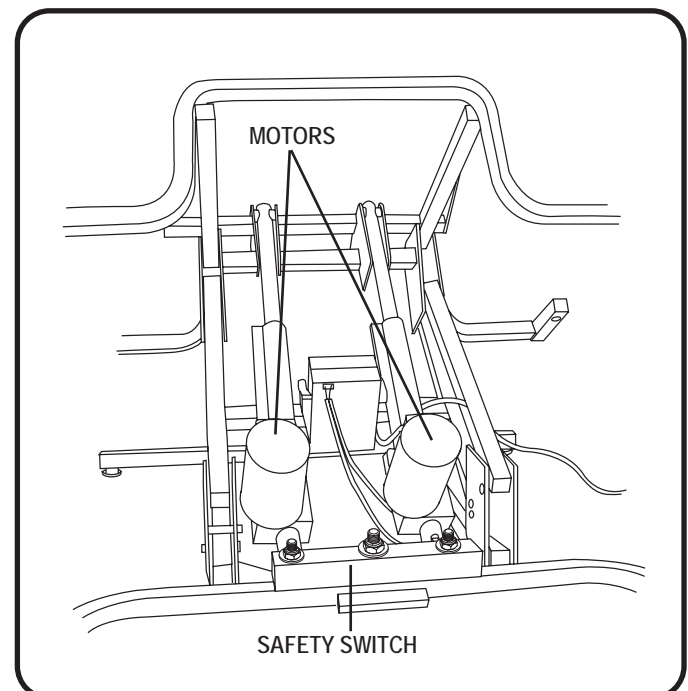

Figure 6.3 In-sync Motors (Timing Corrected)
3. Press the hand control in the UP position until your chair reaches the full lift position. This will reset the motor position and correct the timing (**Fig. 6.3**).